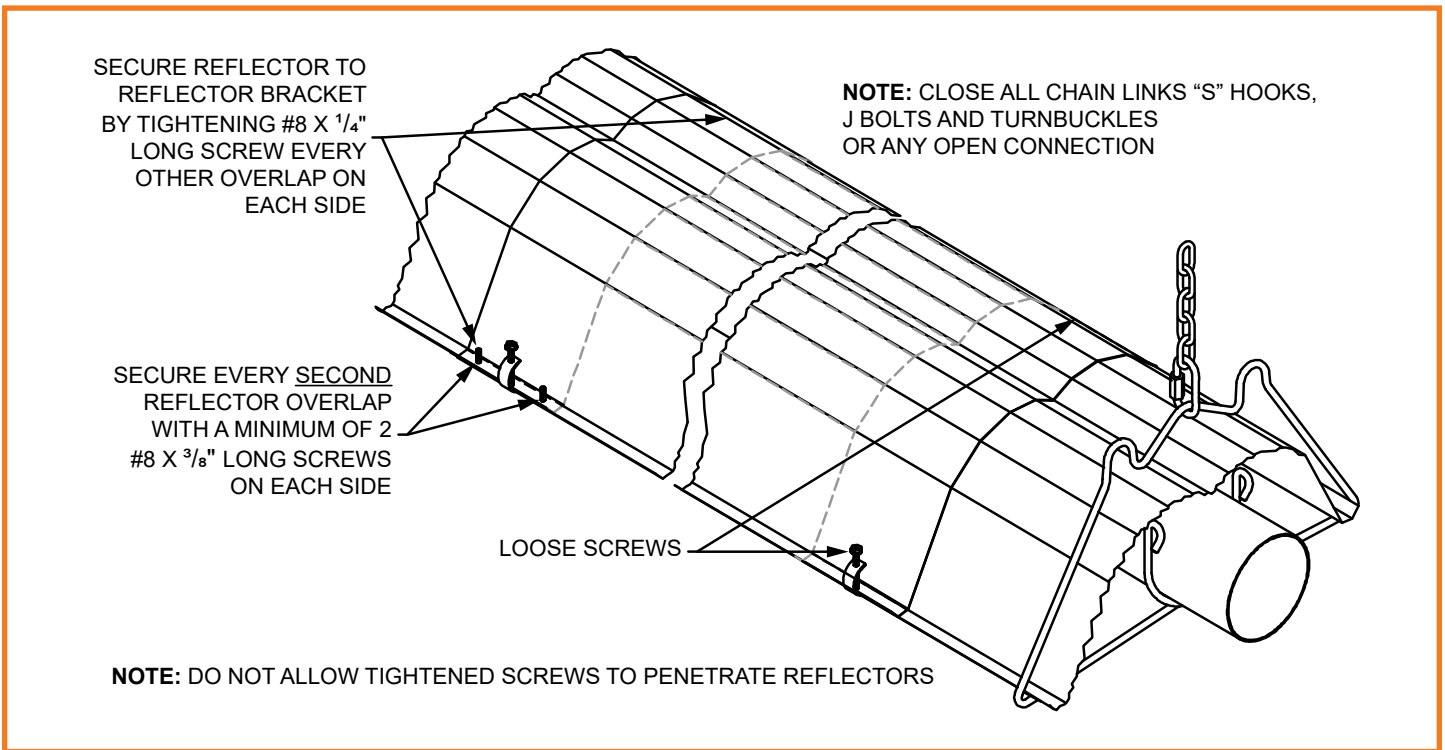

Figure 17: Reflector Supports Installation and Reflector Overlay Bracket Installation
- Secure every second reflector overlap together with a minimum of 2 - #8 x $\frac{3}{8}$ " long screws (not supplied), and secure reflector to the reflector bracket at this point by tightening down #8 x $\frac{1}{4}$ " screws supplied with reflector brackets (Figure 17). The remaining reflector overlap joints and reflector brackets are left loose to accommodate system movement.